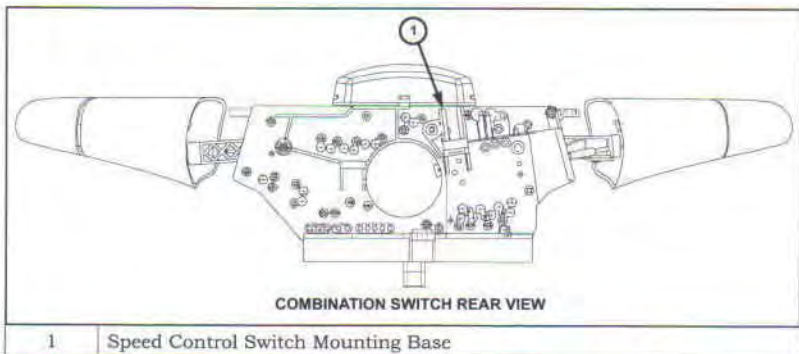

Figure 237 Location of Speed Control Switch Mounting Base
8. Locate the speed control switch mounting base (arrow) on the back of the combination switch (Figure 237).